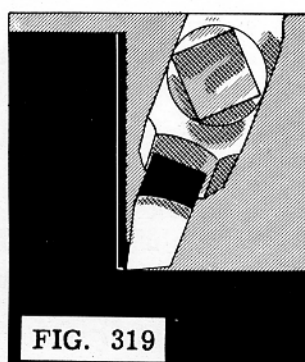
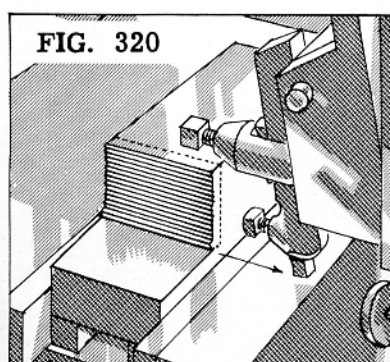

FIG. 319
FIG. 320
14. Continue the hand feeding until the metal left in the corner by the round point on the roughing tool has been removed and the tool has cut almost to the layout line indicating the location of the shoulder (Fig. 319). Then stop the shaper at the end of its backward stroke (Fig. 320).